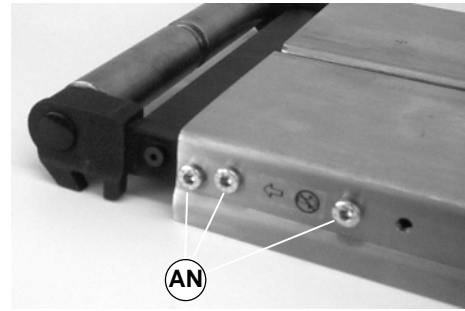

Figure 29
4. Remove three (3) screws (AN of Figure 29) on the side opposite the drive shaft.